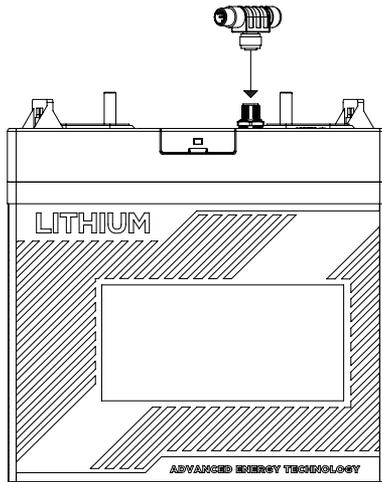

Figure 14. Attaching DLPT Connector to LYNK Port
4. Repeat until all batteries have been attached in a series network (Figure 14).